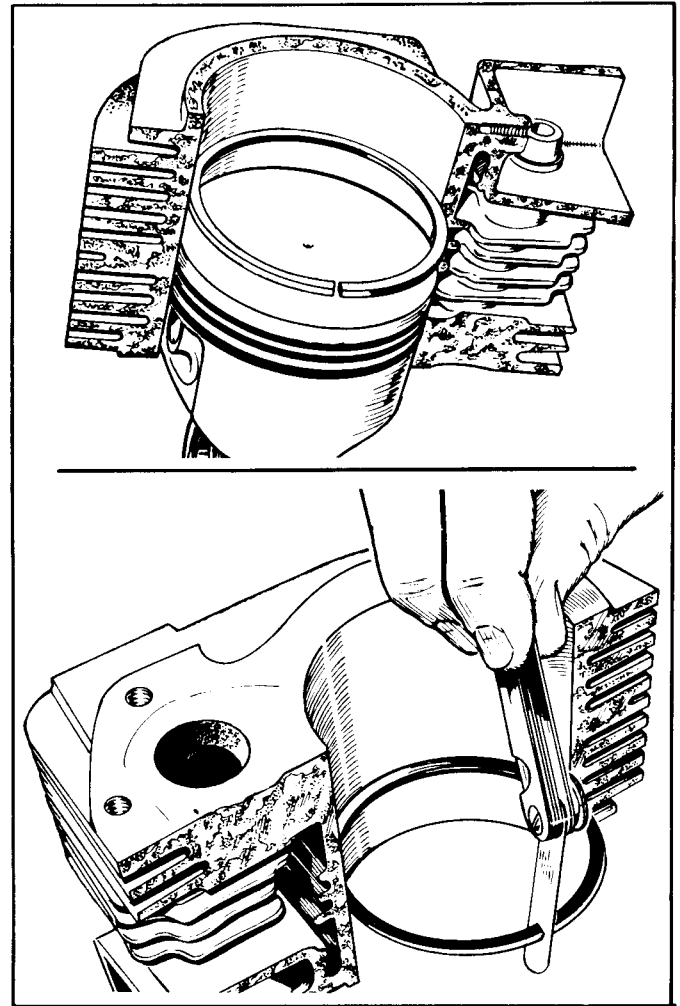

FIGURE 12. CHECKING PISTON RING END GAP
- a. Install the piston ring in the cylinder bore. Invert the piston and push the ring to the end of ring travel, about halfway into the bore, which trues the ring end gap. Check the gap with a feeler gauge as shown in Figure 12.